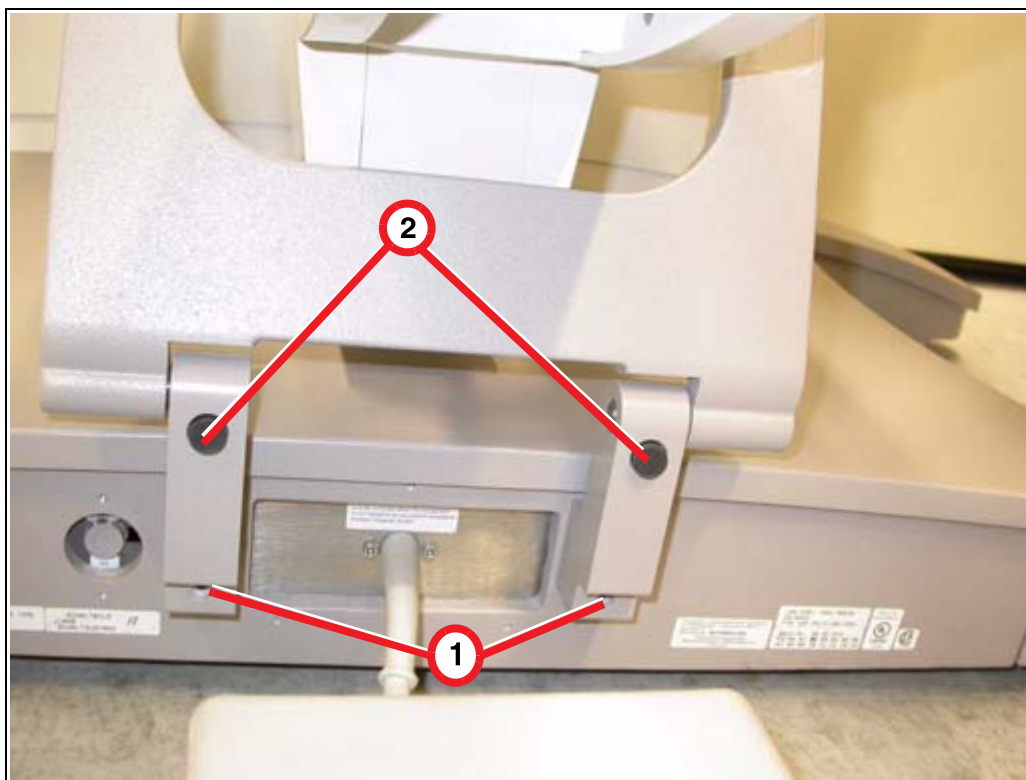

Fig. 23: Positioning_yoke_1
- Attach the yoke to the table with the two screws as shown in ((1/Fig. 23 / p. 23)).